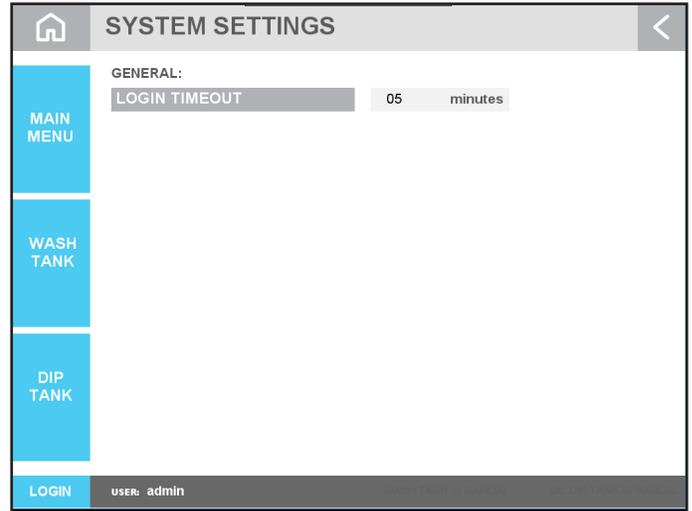

Figure 4.1: Main Menu, System Settings selection
1. Using the HMI, login to the System using the on-screen keyboard [Figure 4.1]
2. From this screen the system auto logout timer can be set [Figure 4.1].